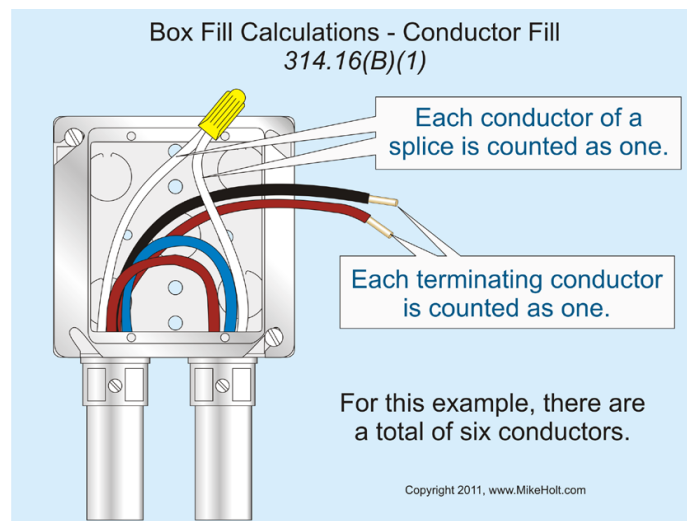

Figure 5-32
**(1) Conductor Volume.** Each unbroken conductor that runs through a box and each conductor that terminates in a box is counted as a single conductor volume in accordance with Table 314.16(B). Each loop or coil of unbroken conductor having a length of at least twice the minimum length required for free conductors in 300.14 must be counted as two conductor volumes. Conductors that originate and terminate within the box, such as pigtails, aren't counted at all.
**Figures 5-32 and 5-33**